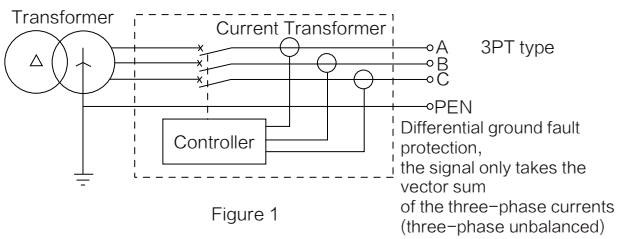

Figure 1
The controller has two grounding protection methods, the first one is differential type (T), the controller detects the vector sum of three-phase current and neutral pole current for protection. According to the number of poles of the circuit breaker, it is divided into three forms: 3PT, 4PT, (3P+N)T, as shown in Figures 1, 2, and 3 respectively. The second method is ground current type (W), the controller detects the current between the N line and the PE line through an additional current transformer for protection, as shown in Figure 4.